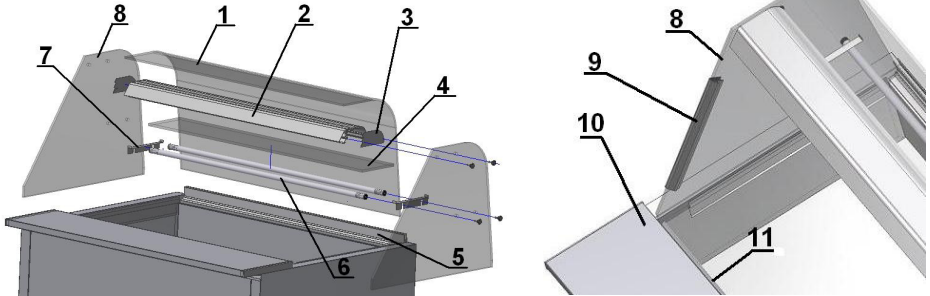

Fig.7 Assembly of glass elements and aluminium lamp
1. Mount glass sides Fig.7/8 (p.16)
2. Mount the aluminium lamp (together with lighting) on glass sides Fig.7/2 (p.16)
3. Mount the front glass, basing it on the lamp and glass sides Fig.7/1 (p.16)
4. Mount the casing of lamp conduit Fig.7/9 (p.16) Move the casing of lamp conduit to the back of the glass side, in order to hide the conduit coming out of the lamp in the casing and to place it on the internal part of the glass side.
5. Mount aluminium profiles under the glass shelf (optional) Fig.7/6 (p.16)
6. Mount the glass shelf Fig.7/4 (p.16)